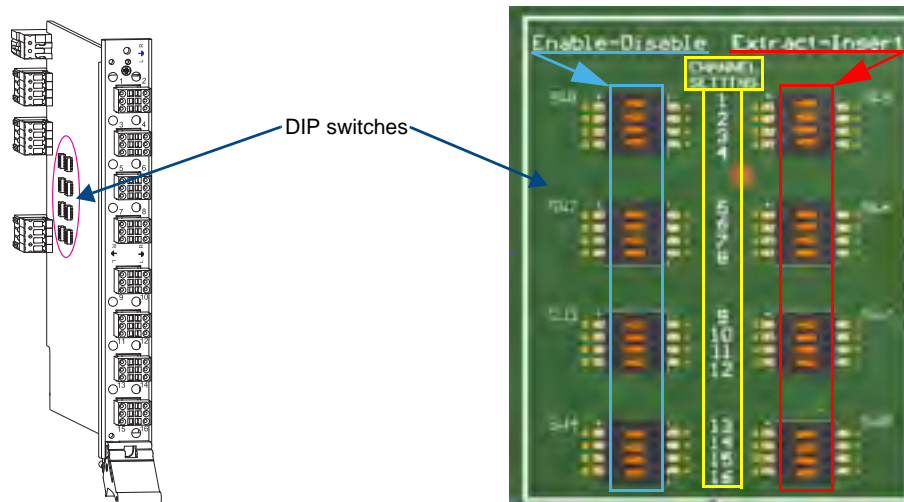

FIG. 58 Flip DIP switches to change settings
Each board has two DIP switches per AIE connector with the corresponding AIE connector number displayed vertically between the switches (labeled “Channel Setting” – see FIG. 58 below).
- Located on the left (see blue rectangle in FIG. 58).
- Located on the right (see red rectangle in FIG. 58).